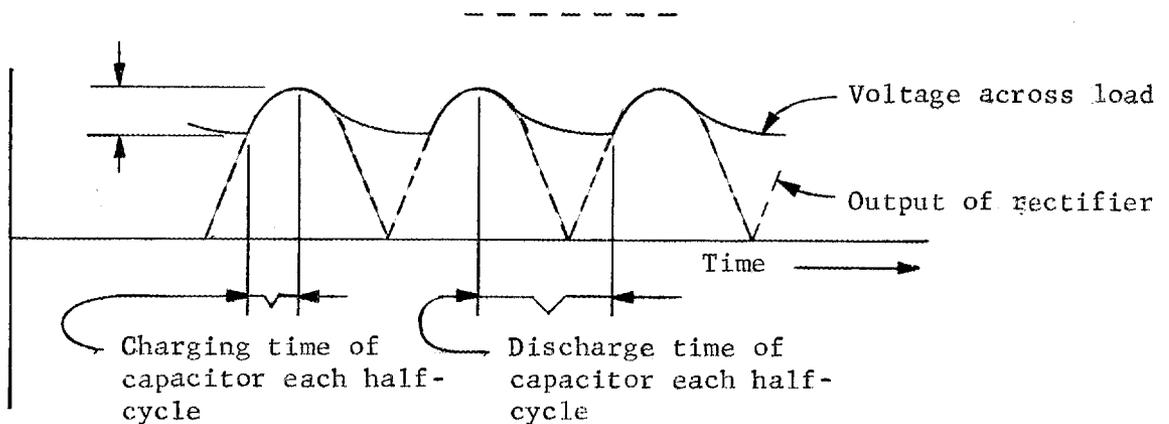

Fig. V-33. Load Voltage with Capacitor Filter
94. Figure V-33 shows the wave form of the voltage
96. From Figure V-33 the smaller the ripple is, the ripple